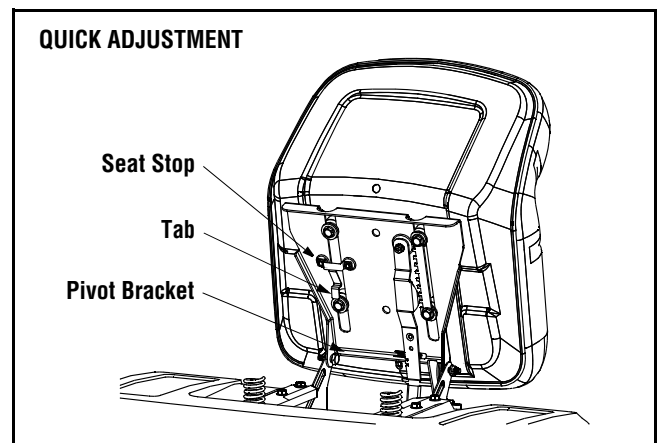

Figure 4
Refer to Figures 4 and 5 to identify your tractor's seat style and follow applicable instructions.
**NOTE:** If your seat was shipped mounted backwards on the seat pivot bracket, pull out the tab found on the seat stop and hold it open while sliding the seat off the seat pivot bracket. See Figure 4.
- Slide seat in until front seat spacer engages the seat stop. See Figure 4.